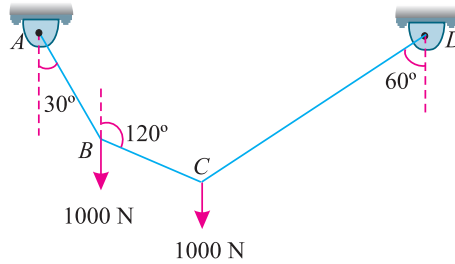

Fig. 5.5.
**Example 5.2.** A string ABCD, attached to fixed points A and D has two equal weights of 1000 N attached to it at B and C. The weights rest with the portions AB and CD inclined at angles as shown in Fig. 5.5.